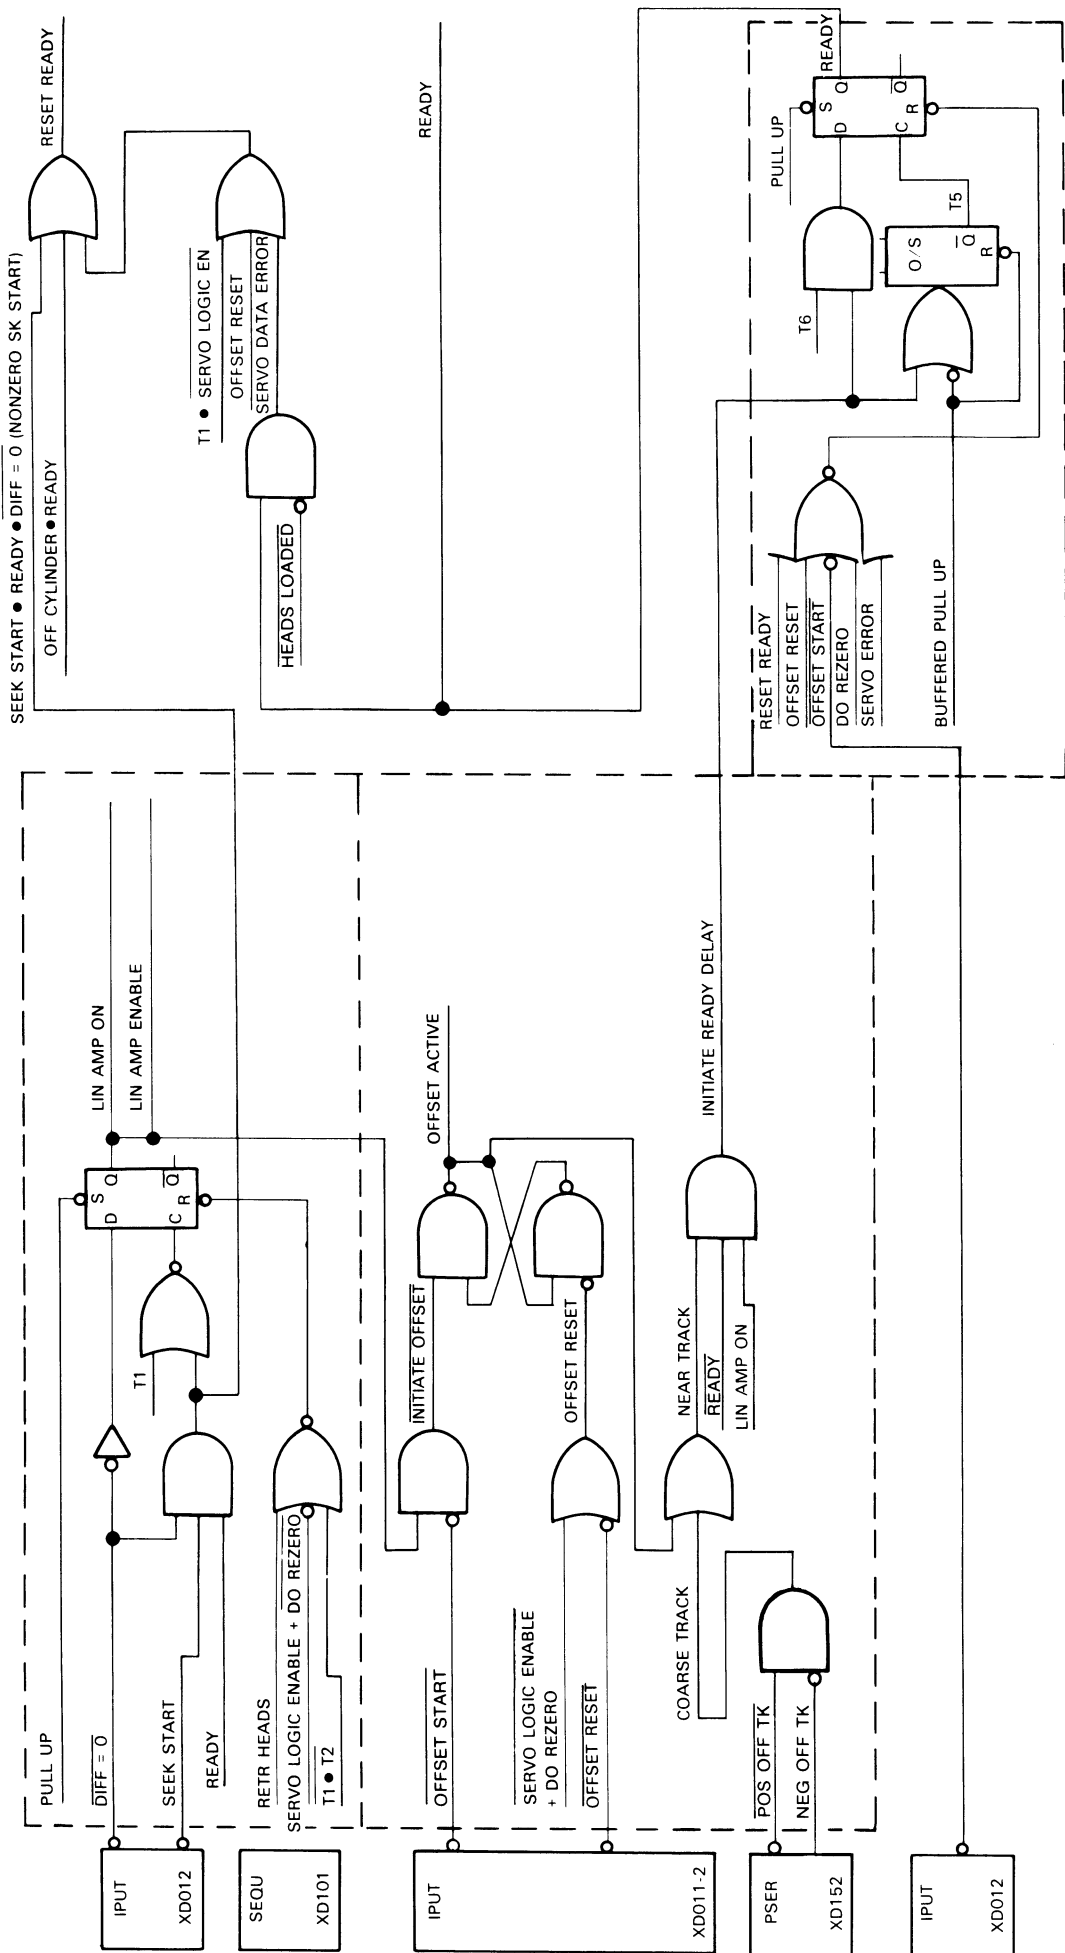
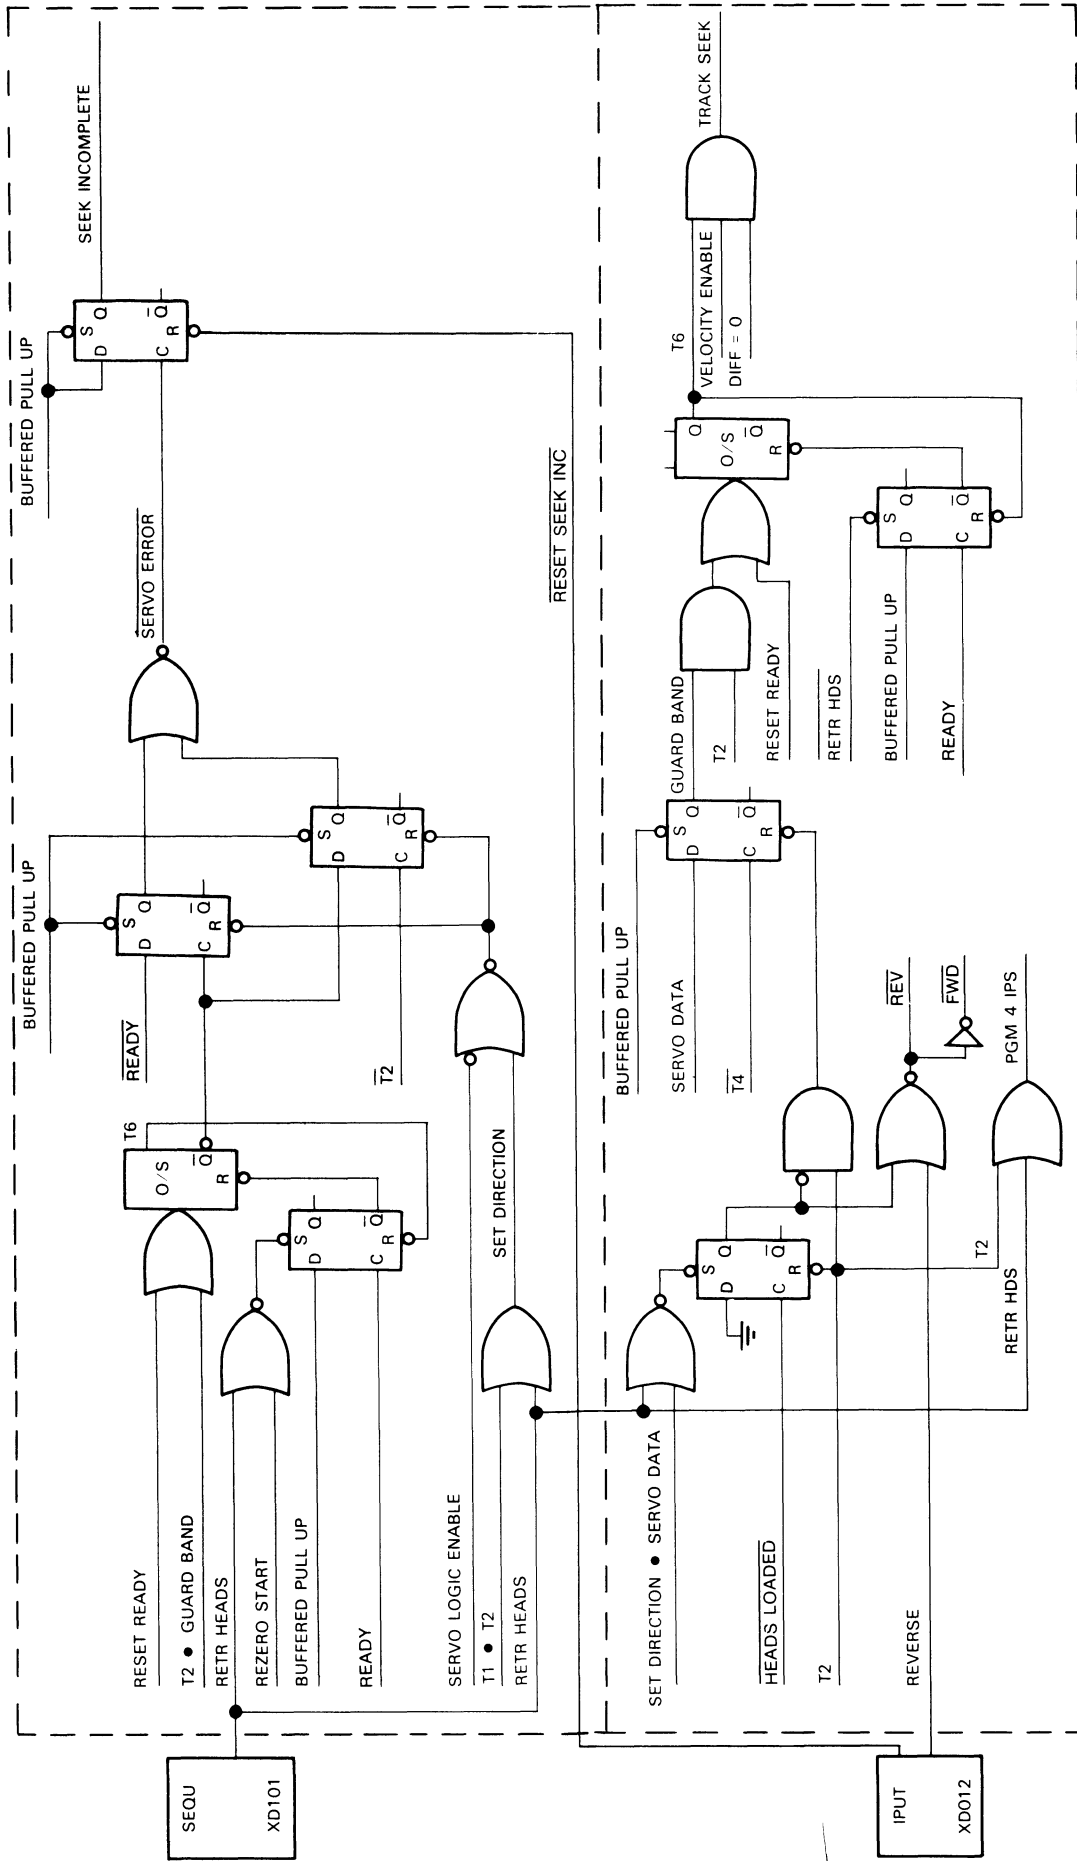

FIGURE 3-51. AMP ENABLE, READY DELAY, ALLOW READY AND READY
FIGURE 3-52. TRACK SEEK AND SEEK INCOMPLETE
Referring to Figure 3-51, LIN AMP ENABLE is latched true when T1 times out, provided the latch is not reset.
STOP VELOCITY being true sets T1, and when timed out the system is in the Position Control mode. Referring to Figure 3-51, COARSE TRACK becomes true when the carriage has positioned the heads near track center. This signal being true allows INITIATE READY DELAY becoming true, provided the linear amp is on and the system is not already in the ready state (READY is false).
Referring to Figure 3-51, READY is latched true when T5 (the initiate ready delay) times out, provided T6 has not timed out and the latch is not reset by one of the five reset conditions shown in the figure. How each reset condition is generated is shown in this figure (or Figure 3-52), except for OFFSET START; it takes the logic from the ready state for 5.85 msec (T4) to allow time for offset positioning by the programmed amount.
Referring to Figure 3-52 (lower right area), initiating a track seek is allowed (TRACK SEEK is true) before T6 times out, provided the velocity servo is enabled (VELOCITY ENABLE is true) and the difference count is zero (DIFF=0 is true). Major events leading to initiation of a track seek during a rezero are (refer to lower half of figure):
- After entering the guard band, T6 is started and T2 is reset. (As indicated in Figure 3-51, T6 does not go false before the logic allows entering the ready state.) With T6 and VELOCITY ENABLE true, the logic enters the track seek state provided the difference count is zero.
Referring to Figure 3-52 (upper half), if T2 times out before starting T6 or T6 times out before allowing ready, the logic enters the seek incomplete state.